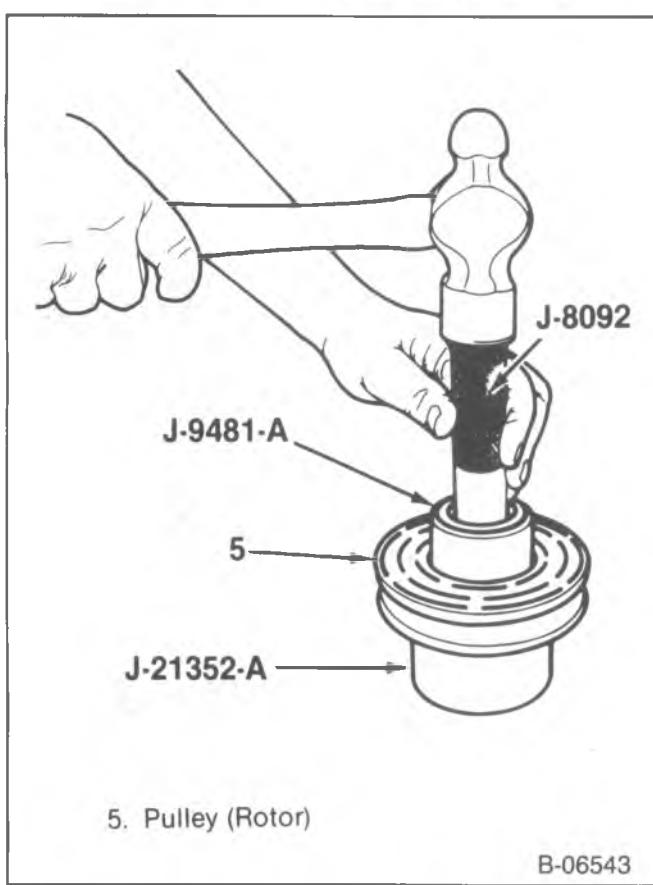

Figure 12—Installing the Pulley Rotor Bearing
2. Pulley bearing (4) into the hub using J-8092, J-9481-A and J-21352-A (figure 12).